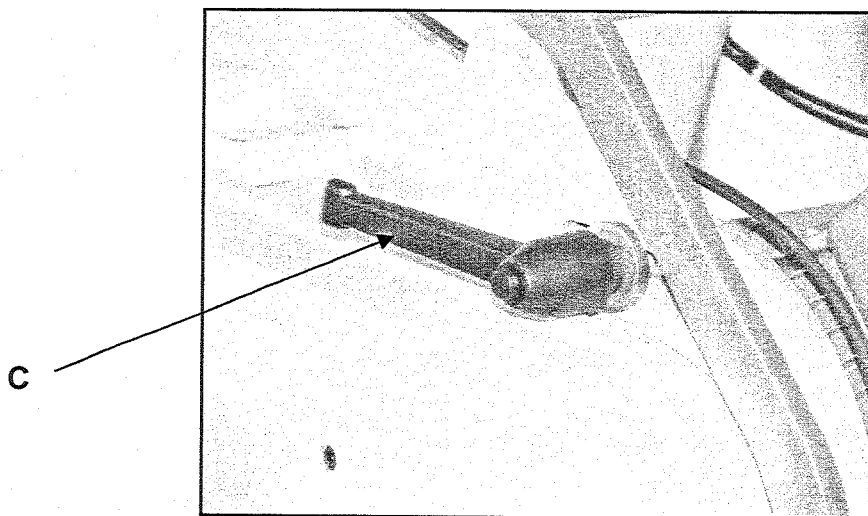

Fig. 8
1. release the motor loosening the lever in Fig. 8 part. **C**.